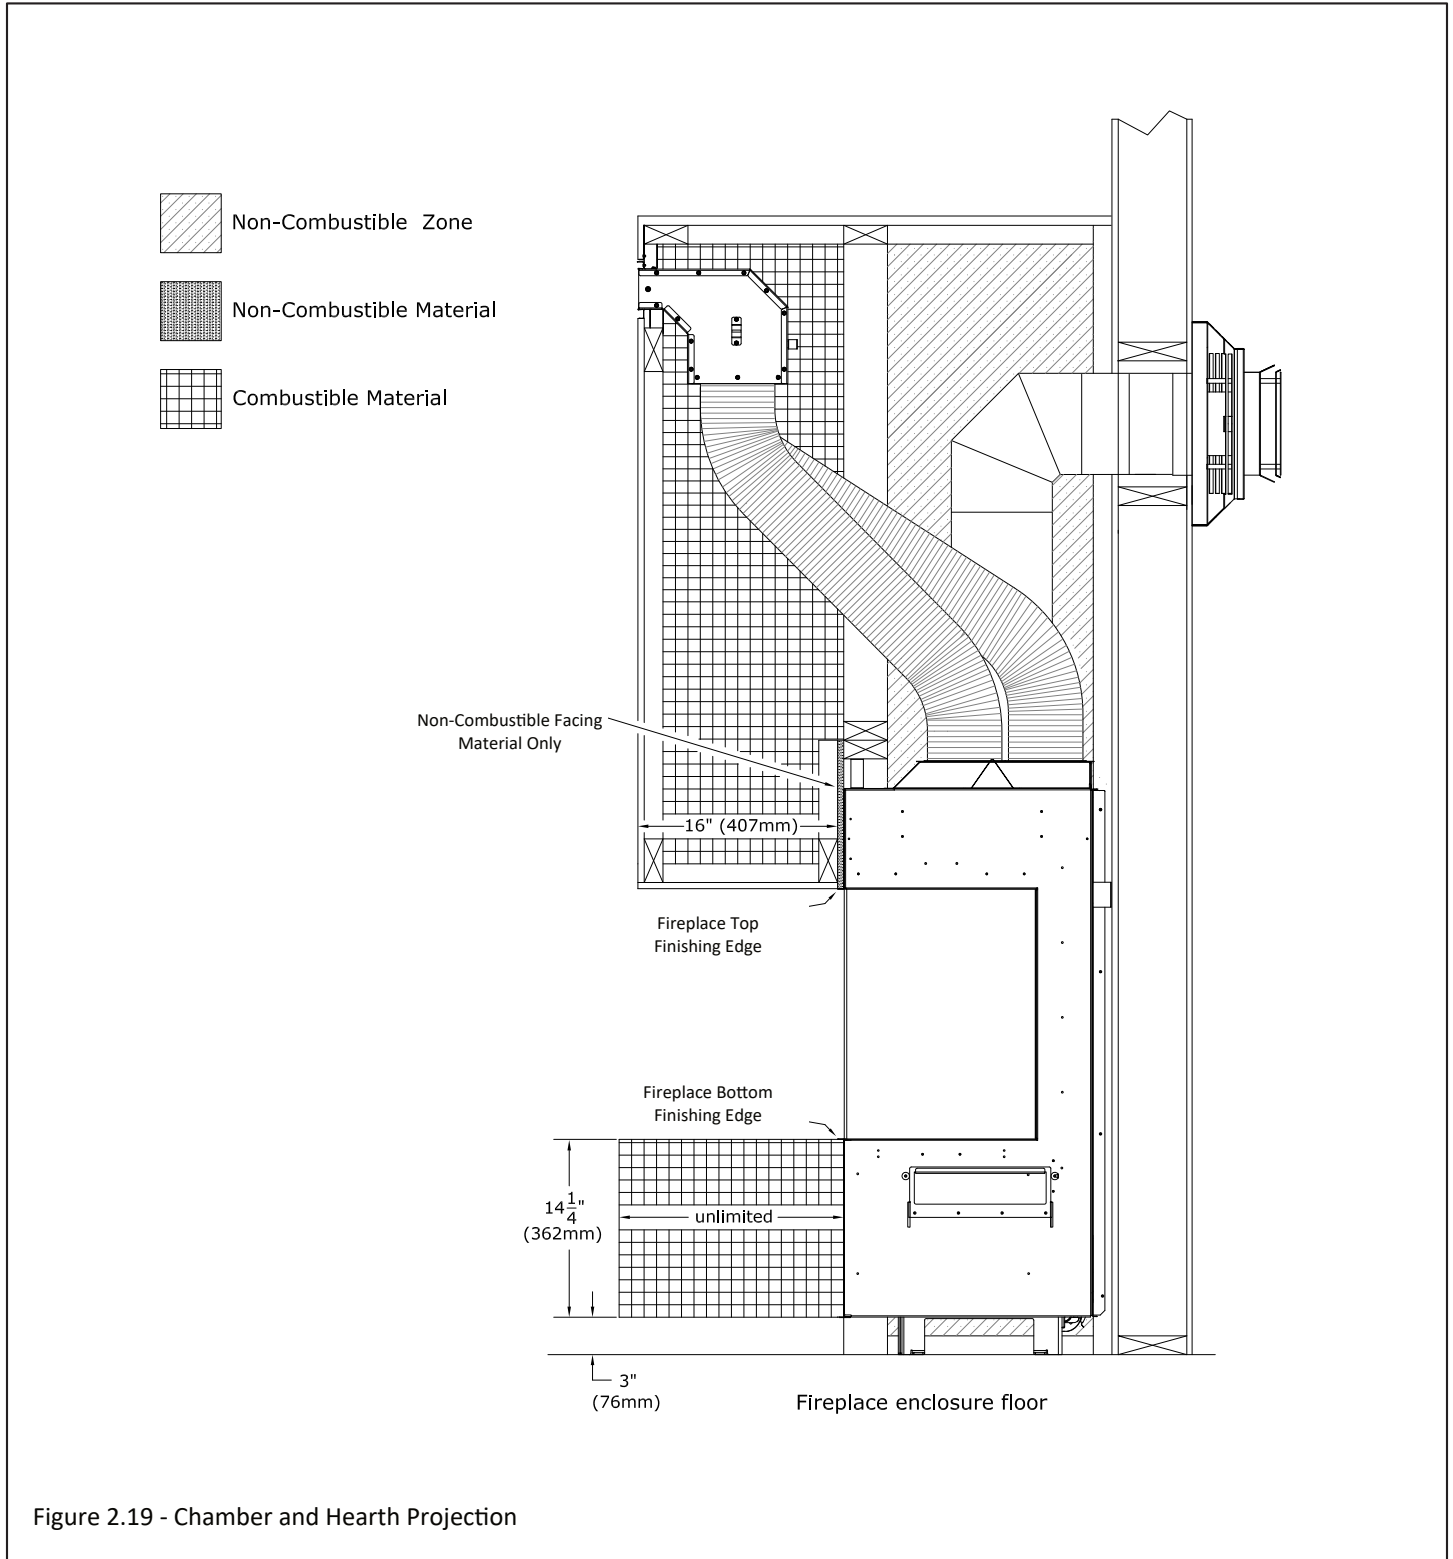

Figure 2.19 - Chamber and Hearth Projection
- **Combustible Chamber Projections:** A maximum of a 16" (406mm) chamber projection can be installed flush at the side and top finishing edge of the fireplace. See Figure 2.19.
Figure 2.19 shows the KZK installed in a 16" front chamber projection. The 16" non-combustible projection would also apply to any side chamber projection.